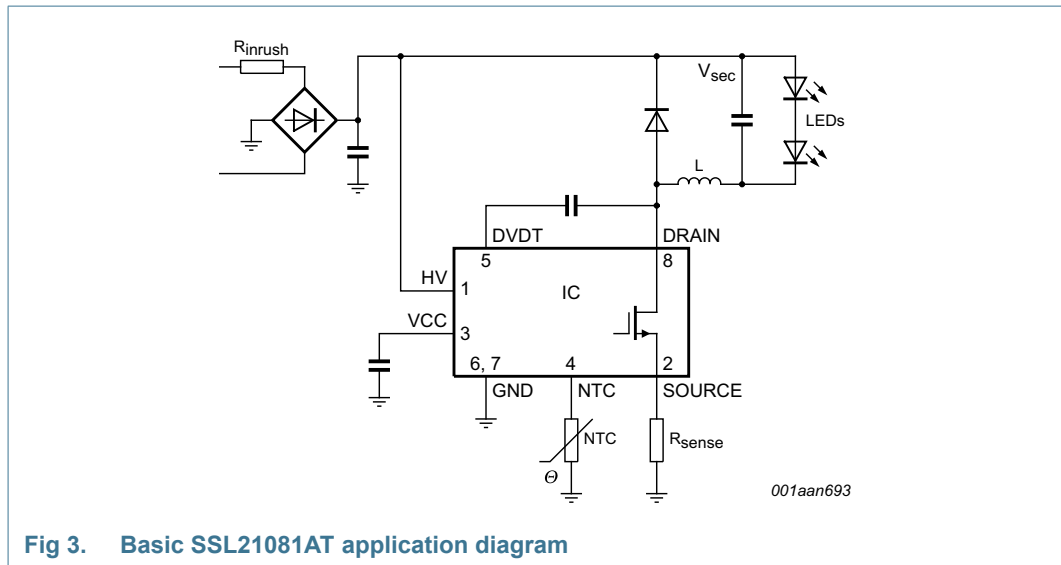
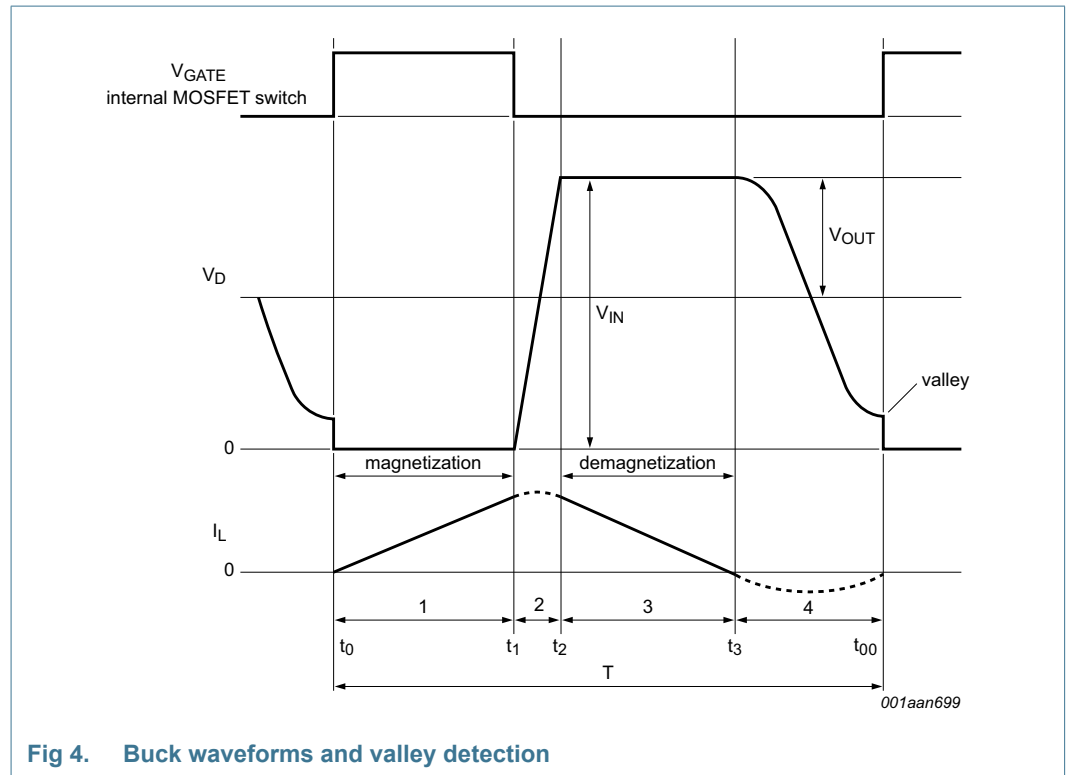

Fig 3. Basic SSL21081AT application diagram
Fig 4. Buck waveforms and valley detection
- Low component count LED driver solution (see Figure 3):
The converter in the SSL21081AT is a Boundary Conduction Mode (BCM), peak current controlled system. Figure 3 shows the basic application diagram. Figure 4 shows the waveforms. This converter type operates at the boundary between continuous and discontinuous mode. Energy is stored in inductor L each period that the switch is on. The inductor current  $I_L$  is zero when the internal MOSFET switch is switched on. Thereafter, the amplitude of the current build-up in L is proportional to  $V_{IN} - V_{OUT}$  and the time that the internal MOSFET switch is on. When the internal MOSFET switch is switched off, the current continues to flow through the freewheel diode and the output capacitor. The current then falls at a rate proportional to the value of  $V_{OUT}$ . The LED current  $I_{LED}$  is almost equal to half the peak switch current. As soon as the inductor current  $I_L$  is zero, a new cycle is started.
A new cycle is started when the primary switch is switched on (see Figure 4). Following time  $t_1$ , when the peak current is detected on the SOURCE pin, the switch is turned off and the secondary stroke starts (3). When the secondary stroke is complete and the coil current at  $t_3$  equals zero, the drain voltage starts to oscillate around the  $V_{IN} - V_{OUT}$  level. The amplitude equals  $V_{OUT}$ . A special feature, called valley detection is an integrated part of the SSL21081AT circuitry. Dedicated built-in circuitry connected to the DRAIN pin, senses when the voltage on the drain of the switch has reached its lowest value. The next cycle is then started and as a result the capacitive switching losses are reduced.